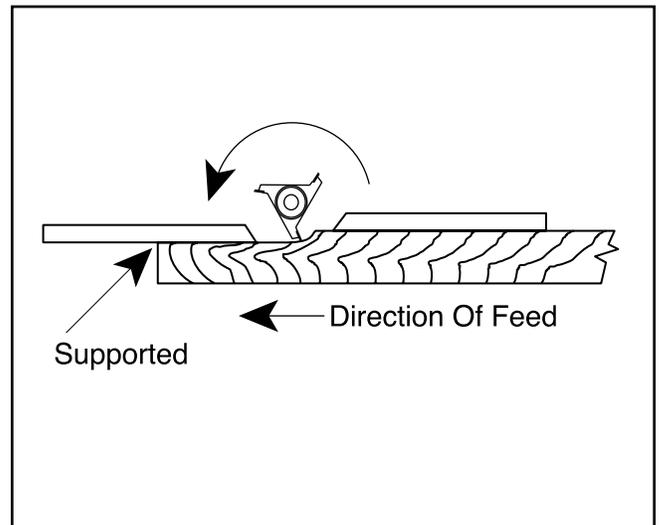

Figure 20. Fence adjusted to support workpiece.
6. When the shaper is turned off and the cutter has come to a complete stop, adjust the outfeed fence to support the new profiled edge. See Figure 20.